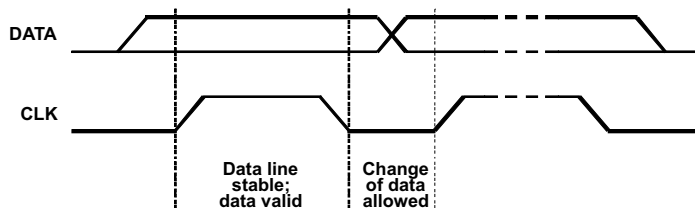
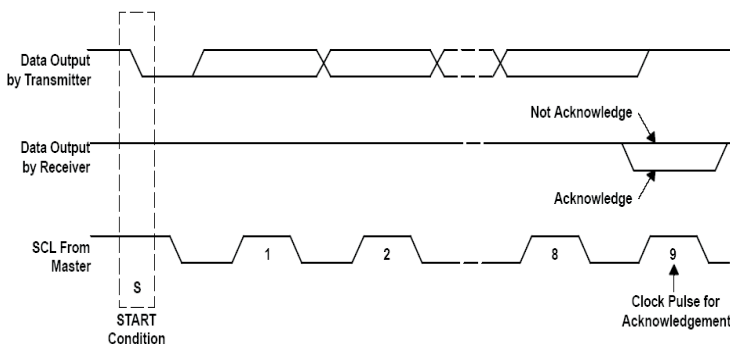

Figure 32. Bit Transfer on the Serial Interface
Figure 33. Acknowledge on the I²C Bus
The master then generates the SCL pulses, and transmits the 7-bit address and the read/write direction bit R/(W) on the SDA line. During all transmissions, the master ensures that the data is valid. A valid data condition requires the SDA line to be stable during the entire high period of the clock pulse (see Figure 32). All devices recognize the address sent by the master and compare it to their internal fixed addresses. Only the slave device with a matching address generates an Acknowledgment, ACK, (see Figure 33) by pulling the SDA line low during the entire high period of the SCL cycle. Upon detecting this Acknowledgment, the master knows that communication link with a slave has been established.